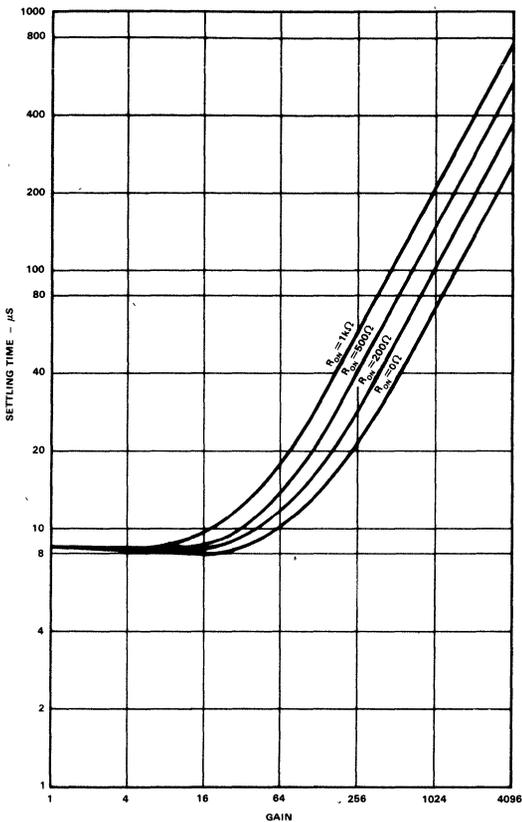

Figure 40. Settling Time to 0.01% of a 20V Step Input for SPGA with AD625
*The frequency response and settling will be affected by the ON resistance and internal capacitance of the multiplexer. Figure 40 shows the settling time vs. ON resistance at different gain settings for an AD625 based SPGA.